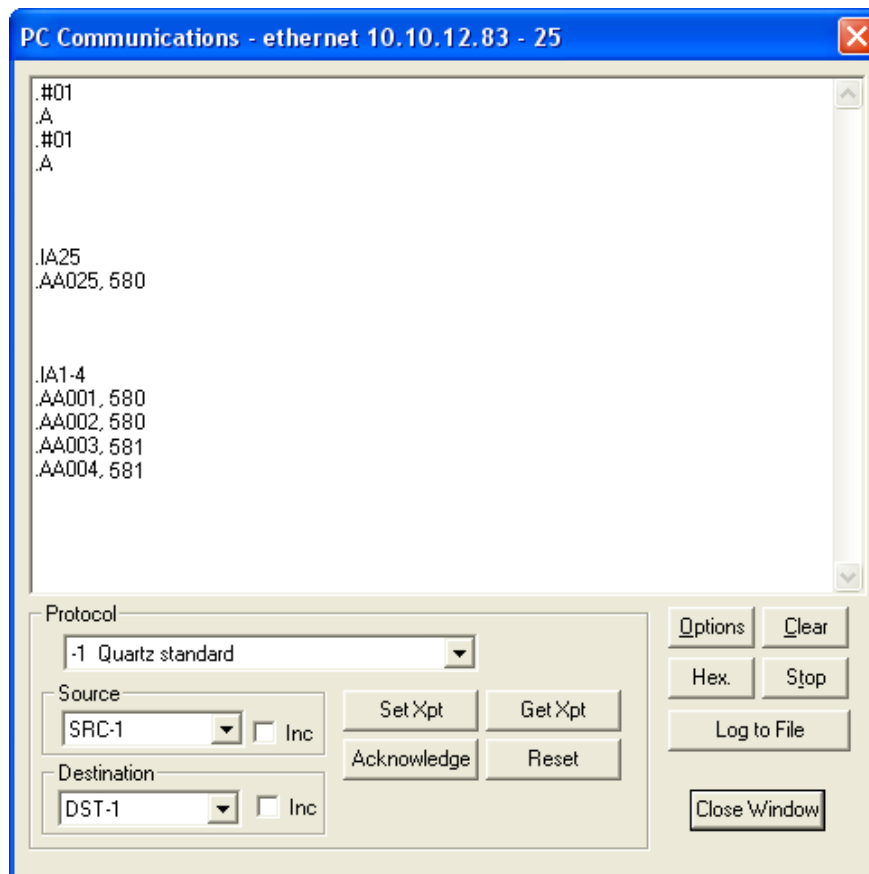

Figure 2: PC Comms Window in WinSetup
- Inside comms window type “.IA[DST] [Press Enter]” or for a range of destinations type “.IA[DST-DST] [Press Enter]”. Shown in Figure 2.